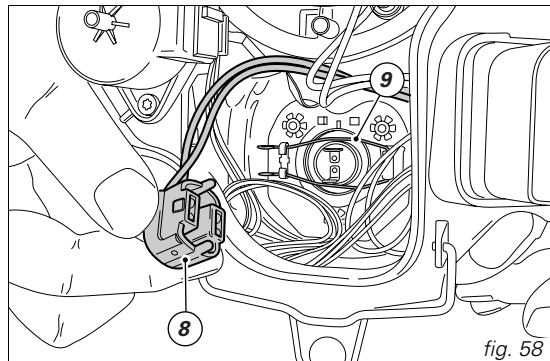

fig. 58
Disconnect connector (8) from the terminals on high beam bulb (fig. 58)